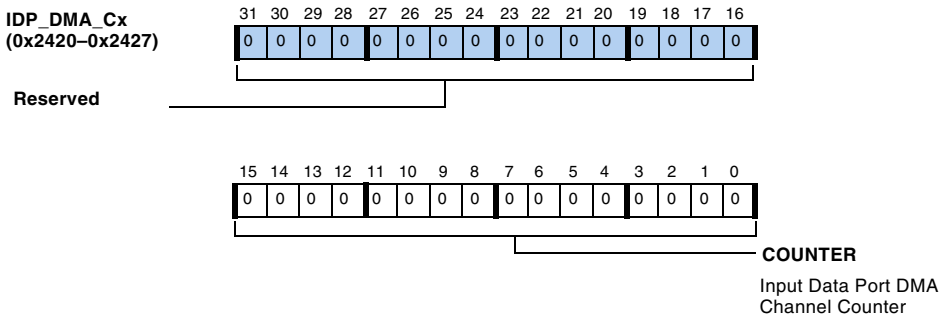

Figure A-66. IDP\_DMA\_Cx Register
- IDP\_DMA\_Cx (including IDP\_DMA\_C0, IDP\_DMA\_C1, IDP\_DMA\_C2, IDP\_DMA\_C3, IDP\_DMA\_C4, IDP\_DMA\_C5, IDP\_DMA\_C6, and IDP\_DMA\_C7), described beginning with Figure A-66